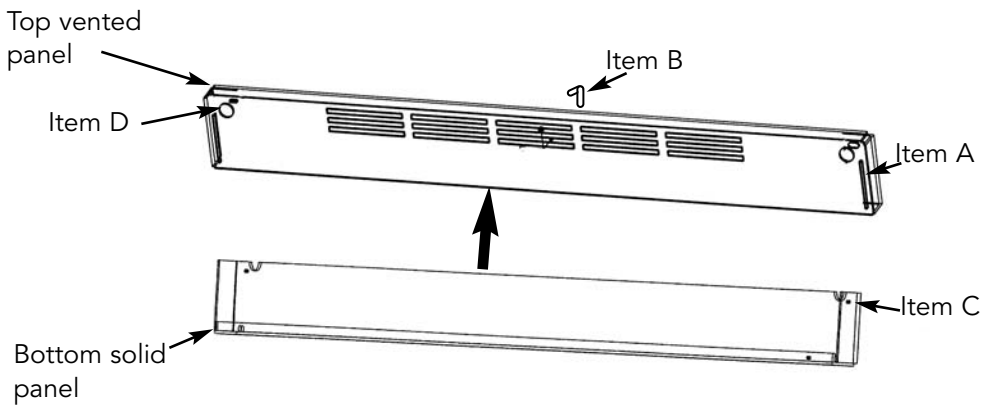

Figure 1
1. Remove exterior shipping materials prior to moving refrigerator into home. Remove top and bottom strap (see Figure 1).
2. Remove top cap (see Figure 1).